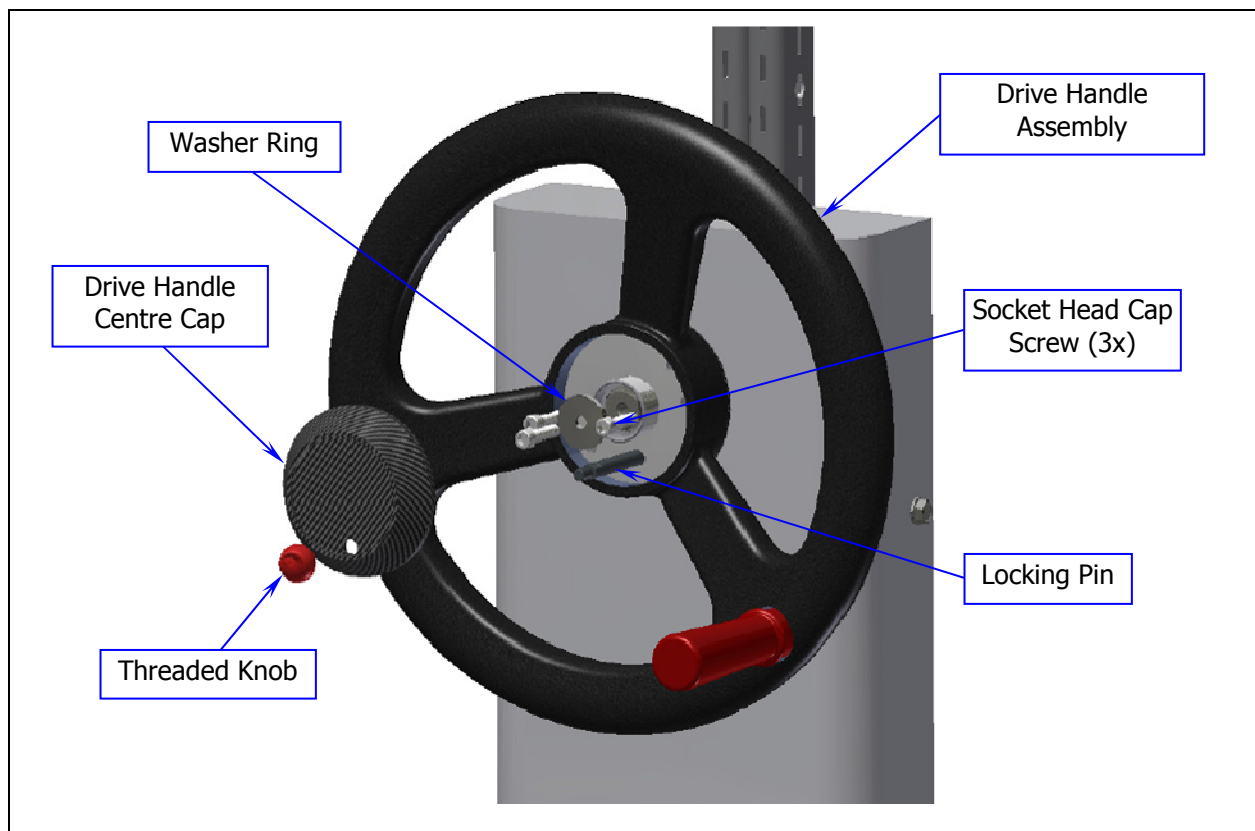

Figure 5: Drive Handle Assembly installation
13. Install the threaded ball knob on to the end of locking pin. See Figure 5.